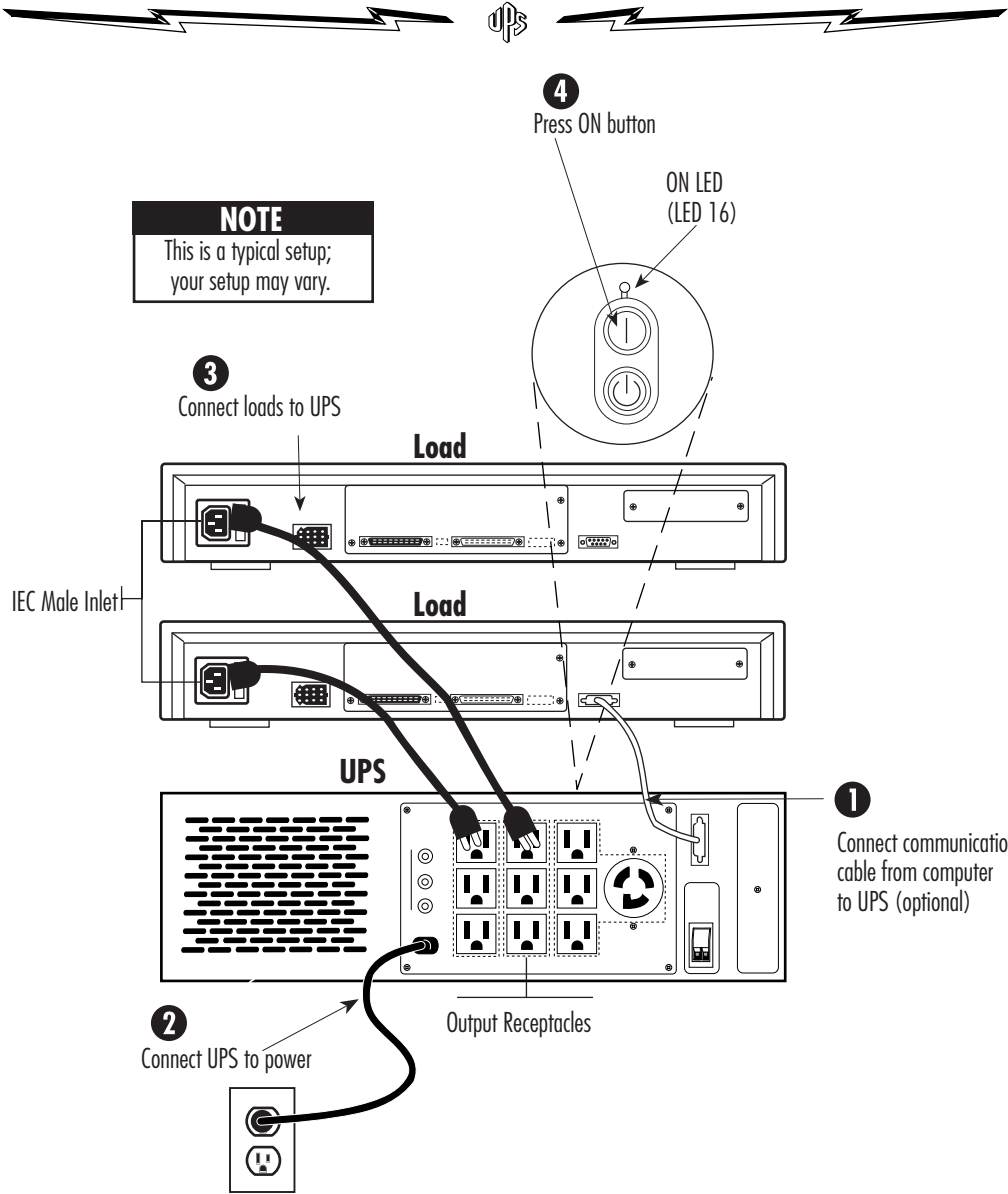

Figure 3. Typical UPS Installation (low voltage model shown)
Follow these steps to install your UPS. Figure 3 shows a typical installation; installing your specific model may vary. Appendix C shows the rear panel of each model.
4. Start the UPS by pressing the ON button as shown in Figure 3. Power is now available to the rear receptacles, and the ON LED is lit.